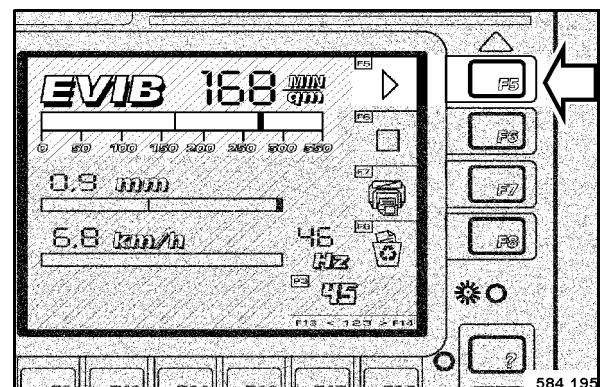

Fig. 98
- When mark 1 is reached, press button F5 "START" (Fig. 98).